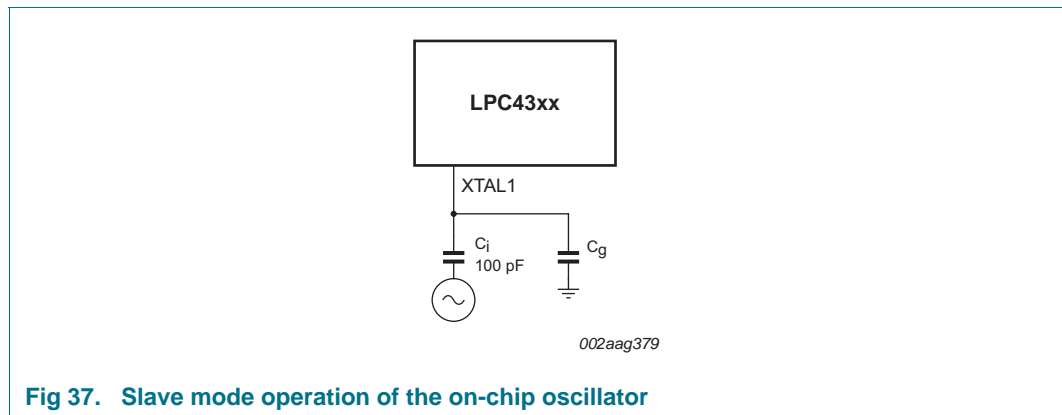

Fig 37. Slave mode operation of the on-chip oscillator
- In slave mode the input clock signal should be coupled by means of a capacitor of 100 pF (C_C in Figure 37), with an amplitude of at least 200 mV (rms). The XTAL2 pin in this configuration can be left unconnected.